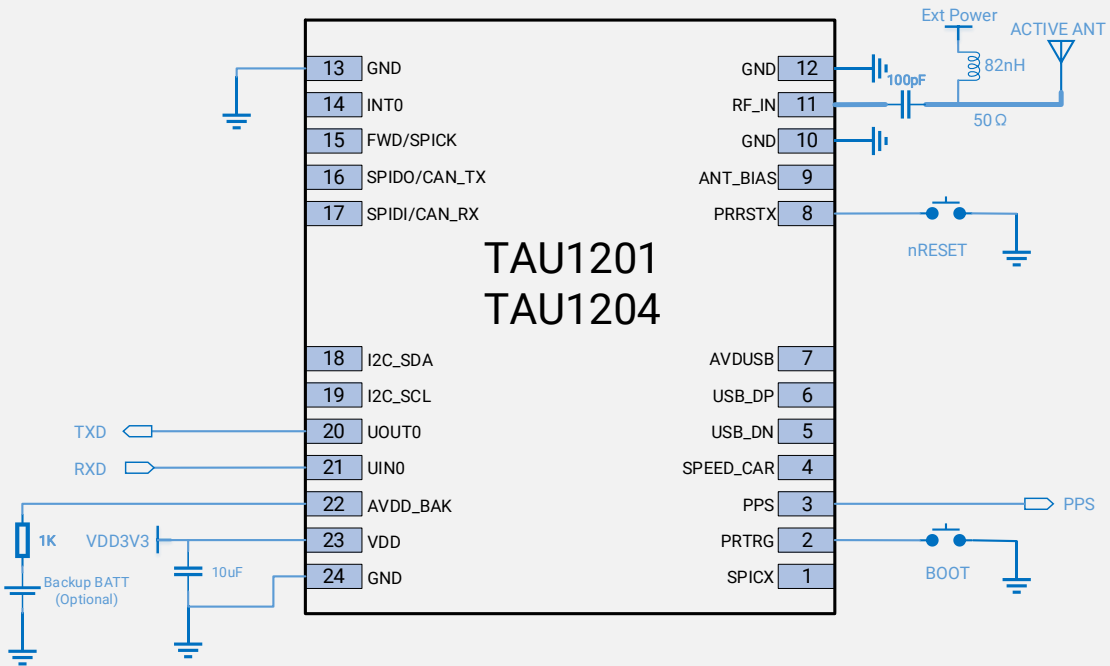

Figure 7 Minimal application diagram with external power for ANT
- If the active antenna is powered by a supply source other than the module, a capacitor should be used to block the DC from RF_IN. (Refer to **Figure 7**)